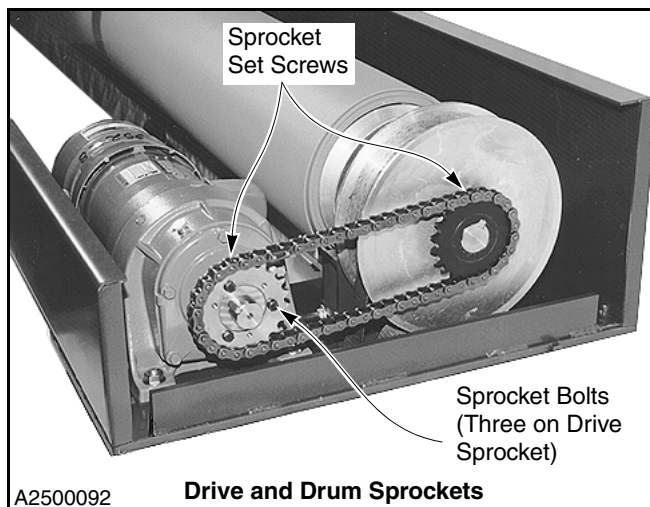
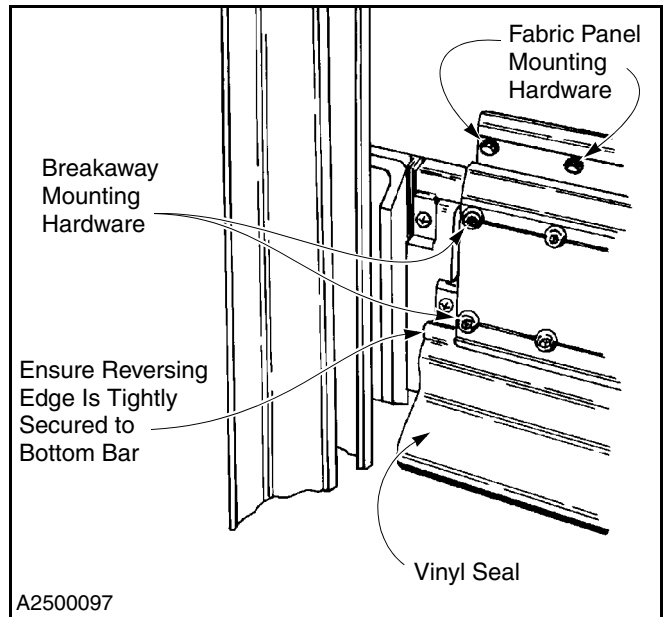

Figure 16
Figure 19
2. Make sure all nuts, bolts, and set screws are tight throughout the door. Example: motor mounting bolts, through-wall mounting bolts, floor anchors, sprocket set screws, etc. (See Figure 16 through Figure 19.)